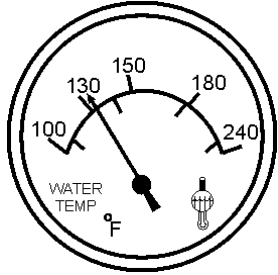

Figure 55. Coolant Temperature Gauge
14. The coolant temperature gauge (Figure 55) will indicate the coolant temperature. Under normal operating conditions the coolant temperature is between 165 and 215 degrees Fahrenheit.